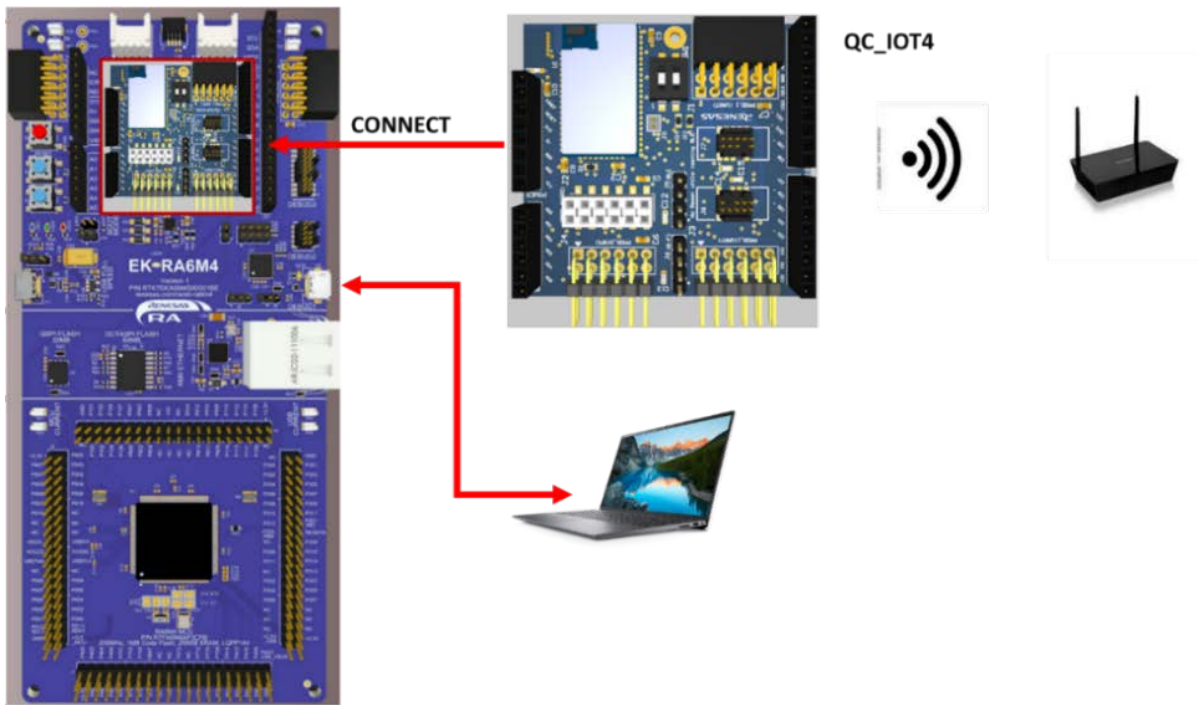

Figure 3. Evaluation Kit Connections with RA6M4 EVK
4. Connect the QC-IOT4 board to the MCU board (see Figure 3).
Use the following procedures to set up the kit connections with RA6M4 EVK as shown in Figure 3.
2. Connect the QC\_IOT4-DA16600POCZ board with MCU as shown in Figure 3.
4. Connect the USB debug port of RA6M4 to the PC as shown in Figure 3.